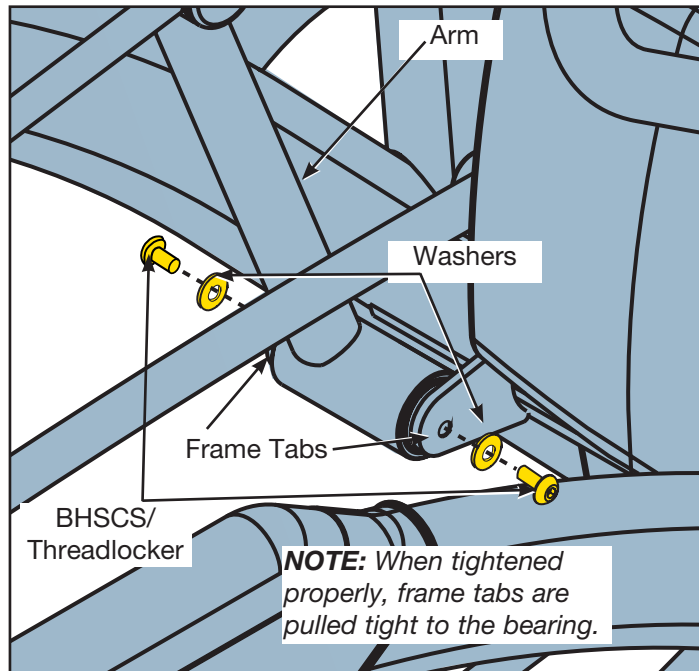

Figure 6
- A. Locate the two screws and washers that secure each handrail to the main frame. See Figure 6.
- B. Using a 7/32" Allen wrench (#18) remove the two screws and washers from the right handrail. See Figure 6.